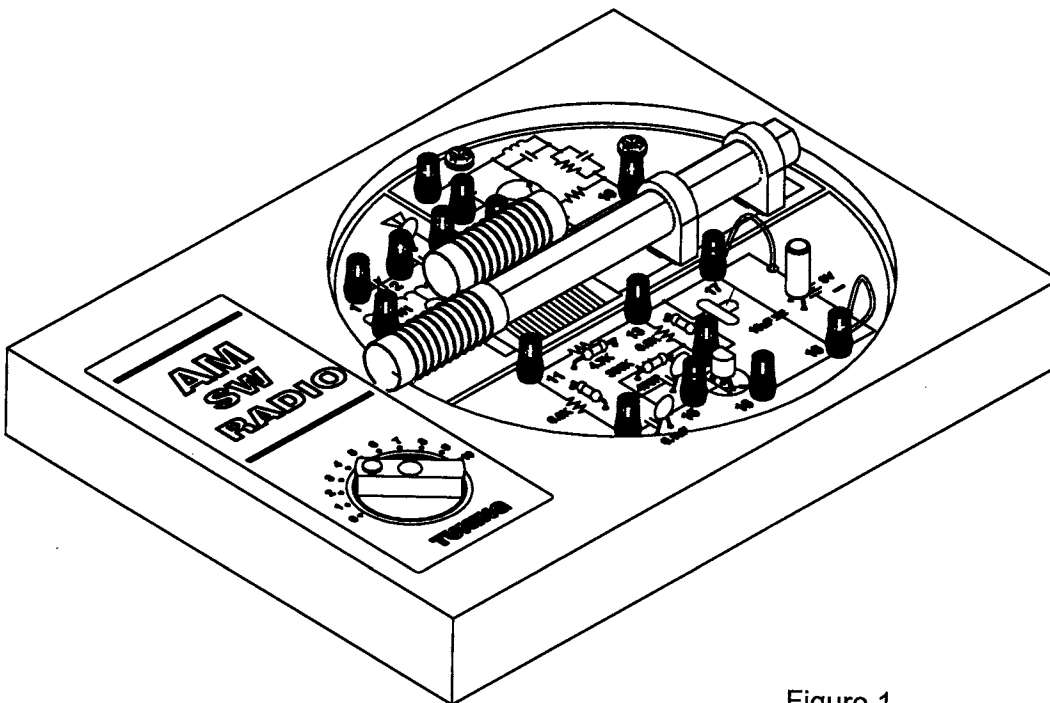

Figure 1
2. Place your Board next to Figure 1 and compare each part and its leads to the illustration.
**REFER BACK TO FIGURE 1** and install the final wires on the top, as illustrated and noted below: